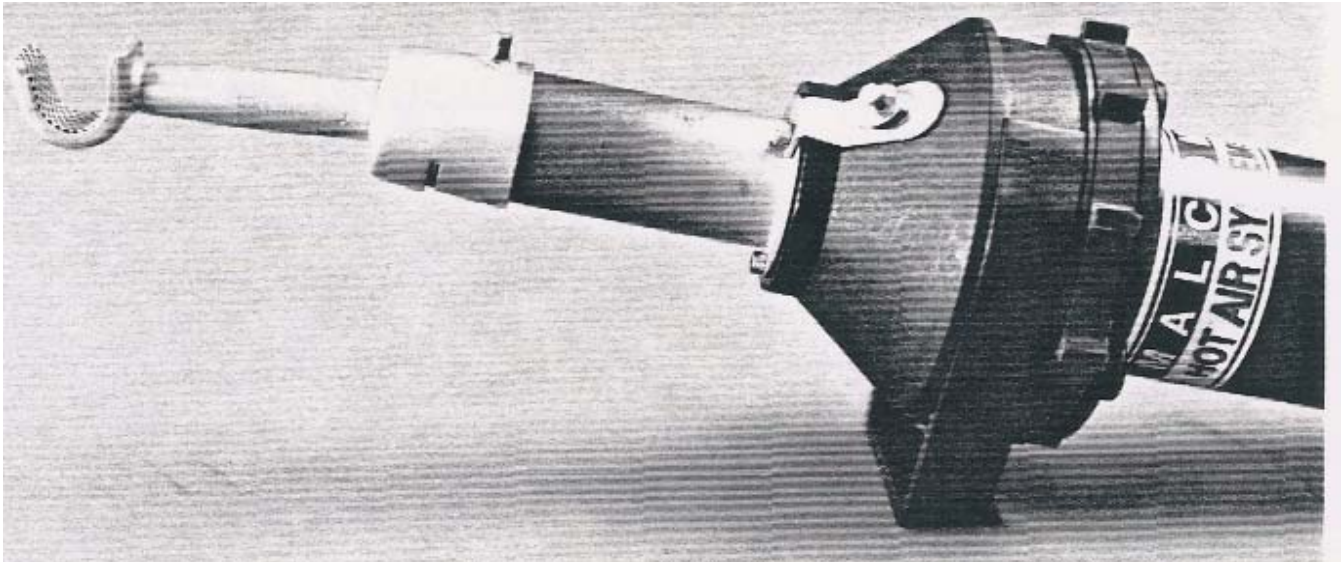

Figure 36. Nozzle Installation
- a. It is recommended that before changing nozzles the operator allow the tool to cool down by turning off the heat (Figure 32, Item 2) and let the fan cool the nozzle down, or turn off the power to the tool and use only combination pliers and or insulated gloves to remove the hot nozzle. When you install a nozzle it is recommended that the fan to the tool be turned off. Push the new nozzle onto the tool and turn it to lock into place (Figure 36).